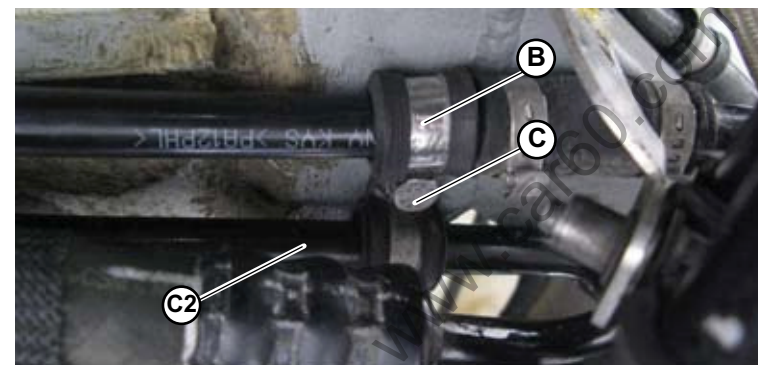

Fig.16
2. Loosen the screw **(C-Fig.16)** to release the clamp **(B-Fig.16)** securing the **C2** power steering circuit central return pipe and the brake vacuum pump pipe to the chassis.